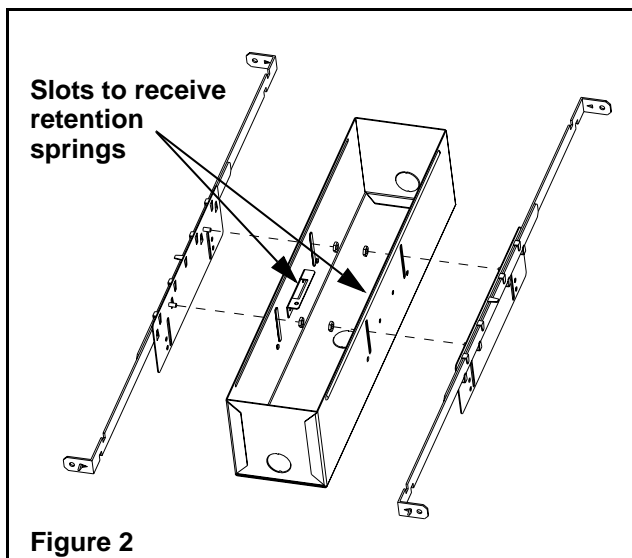

Figure 2
2. Assemble the bar hangers (3) to the adjustment brackets (2) and the adjustment brackets to the back box (see figure 2). Install the bar hangers in the adjustment brackets. Mount the back box so that it is flush with the ceiling surface.
7. Compress the retention springs (Figures 4) and pass them through the slots on the back box (1) (see figure 2) and push the trim plate assembly into the back box. Align to be flush with the back box or with the ceiling.